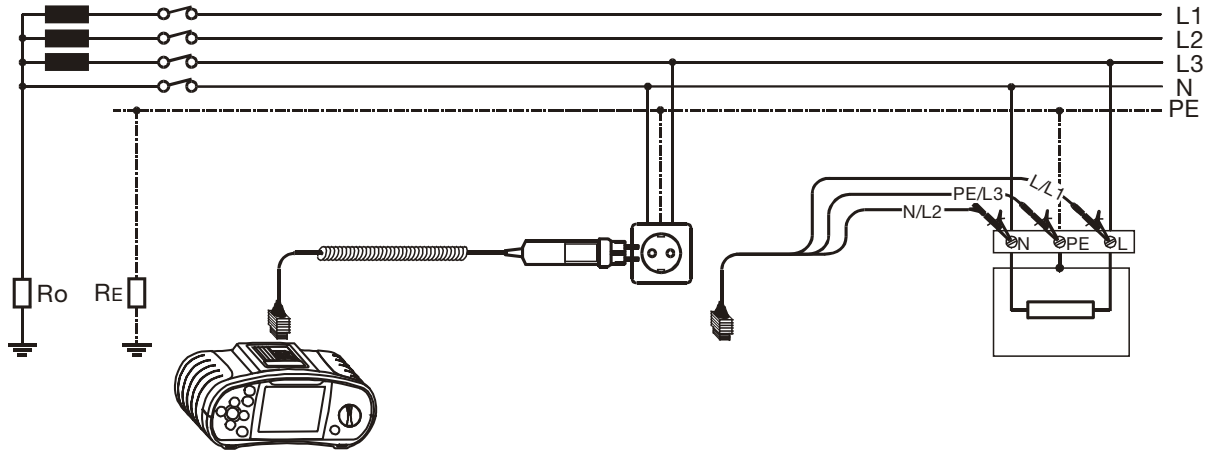

Fig. 5.29 Connection of plug cable and universal test cable
Step 3 Follow the connection diagram shown in figure 5.29 to perform loop impedance measurement. Use the **Help** function if necessary.
- Step 3** Follow the connection diagram shown in figure 5.29 to perform loop impedance measurement. Use the Help function if necessary.